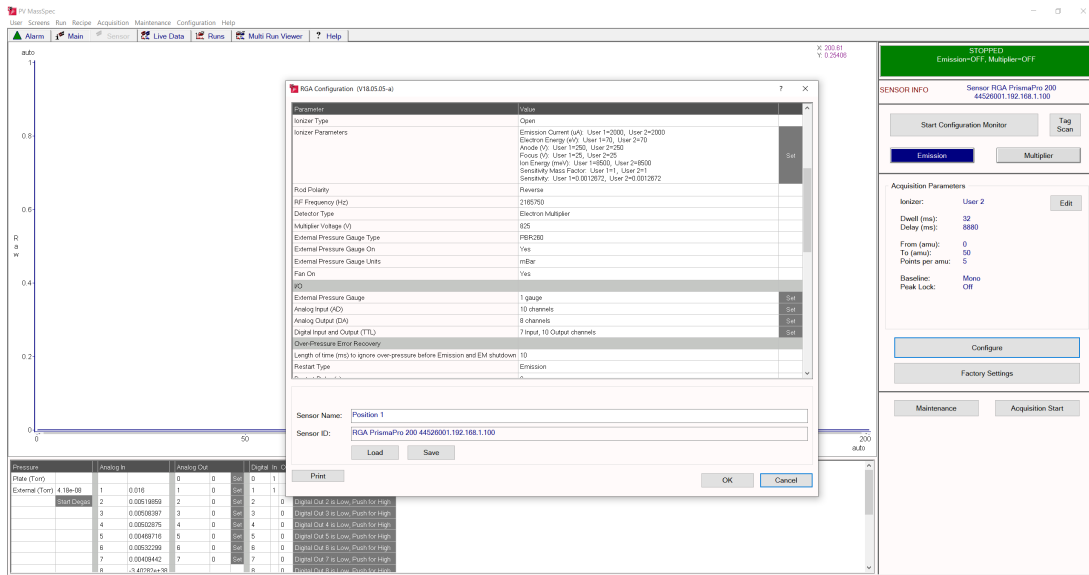

Figure 2: Configure external gauge.
- Click on the **Configure** button. Be aware, that the HPT200 gauge we are using is recognized as PBR260. Set up the mass spec to use *external gauge* and the units to *mBar* (see Figure 2).